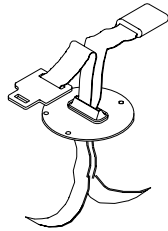

Fig. 11
- A. Insert the seat belts, mounting lugs first, through the rubber seat belt grommets. (See **figs. 11 & 12**)